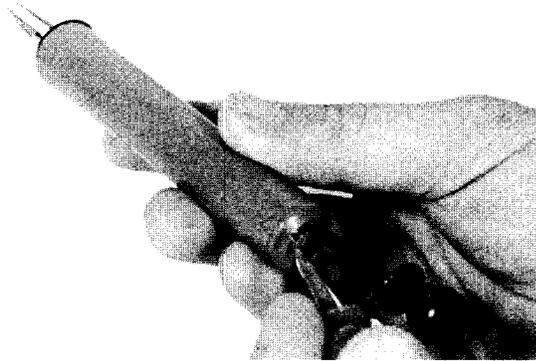

Fig. 7: Making Connections to 39G85 Touch Test Probe.
1. Connect each E-Z Hook® test lead from the TF46 to the matched color terminal in the 39G85. (See Fig. 7.)